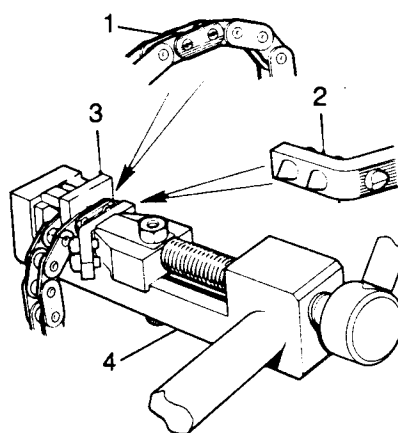

Fig B4.92
- (1) Refer to Fig B4.92. Locate the bright link of the chain (1) in special tool 18G1151 (4).
- (2) Fit the pointed extractor adaptor (2) into the head of the tool sliding press. Fit the bridge-piece of the tool (3) into the bright link.
- (3) Position the link in the front of the tool anvil with the rivet side of the link (link pin heads with horizontal depressions) towards the sliding press of the tool.
- (4) Tighten the press until the link pins shear through the link plate.
- (5) Retract the press and remove the chain.
- (6) Remove the extractor from the press.
- (7) Attach the replacement chain to the old chain with a piece of wire so the old chain will act as 'pull through' to locate the new chain around the guides, tensioner and crankshaft sprocket.